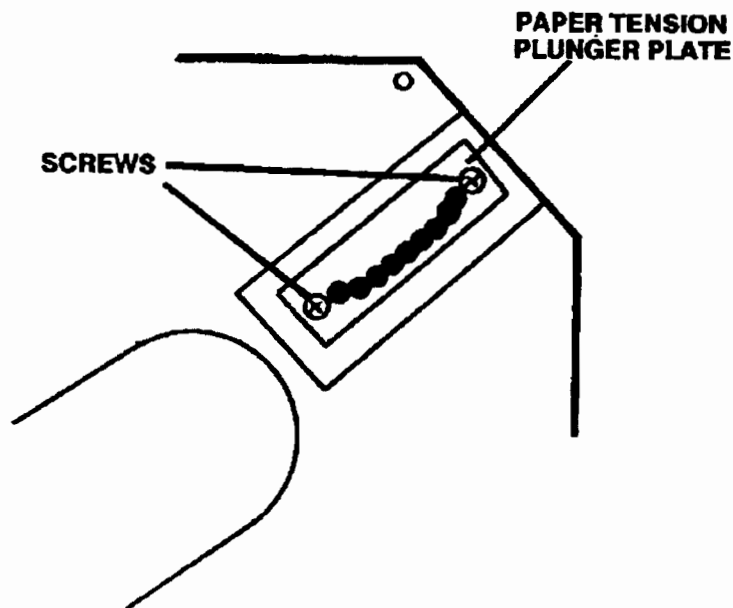

Figure 7. Replacing the Paper Tension Plunger Plate
- b. Install the new plunger plate, leaving the screws loose for now (Figure 7).